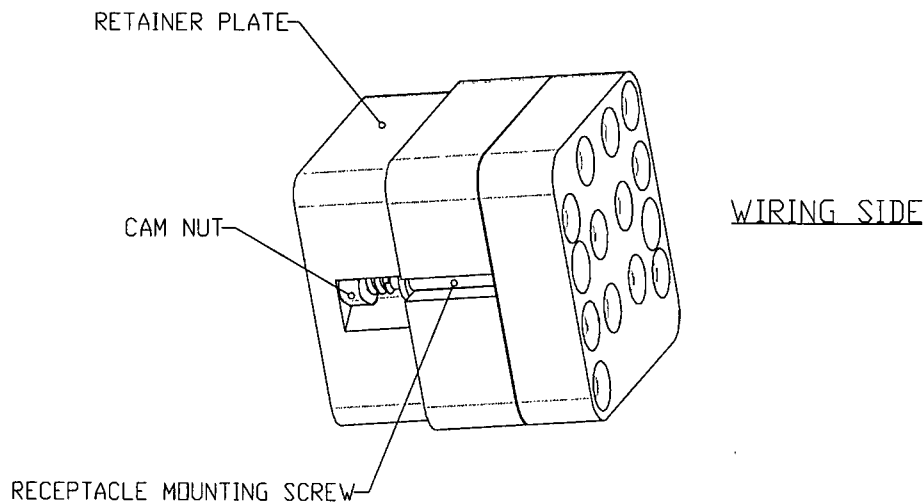

Figure 47 Receptacle Assembly
1. Before inserting the receptacle assembly into a switch, be sure that both cam nuts (see Figure 47) on the two opposite sides of a receptacle, are positioned at the end of the mounting screw threads, next to the wall of the retainer plate, a position which is furthest from the wiring end. If any cam nut is not at the required position, turn screws counter clockwise until each cam nut reaches the position shown.